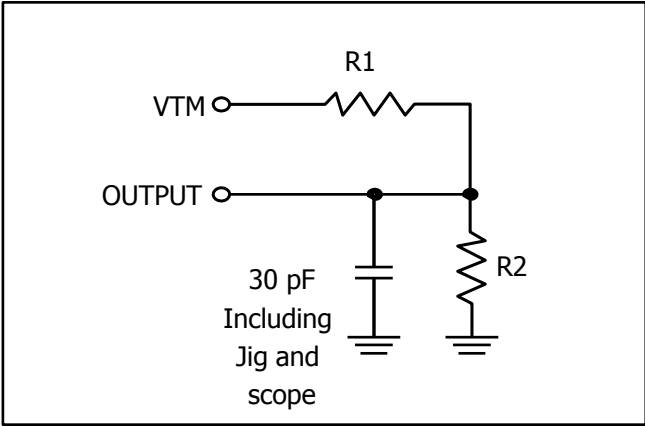

Figure 1
1. Test conditions and output loading are specified in the AC Test Conditions and AC Test Loads (Figure 1) on page 5.